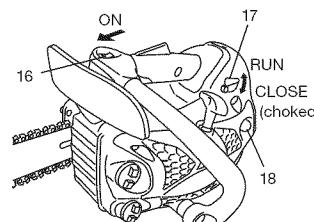

Fig. 10
Starting (Fig. 10, 11)
1. Set ignition switch (16) to ON position.
*Push priming bulb (18) several times so that fuel flows through bulb into carburetor. (If so equipped) (Fig. 10)
- Push the choke lever (17) down to choked position. This will automatically lock the throttle in starting position. (Fig. 10)
- Pull recoil starter briskly, taking care to keep the handle in your grasp and not allowing it to snap back. (Fig. 10)
- When you hear the engine want to start, with the safety trigger (19) pressed pull throttle trigger (20). This will release the throttle from starting position to run position and will automatically return the choke lever to run position. (Fig.10, 11)